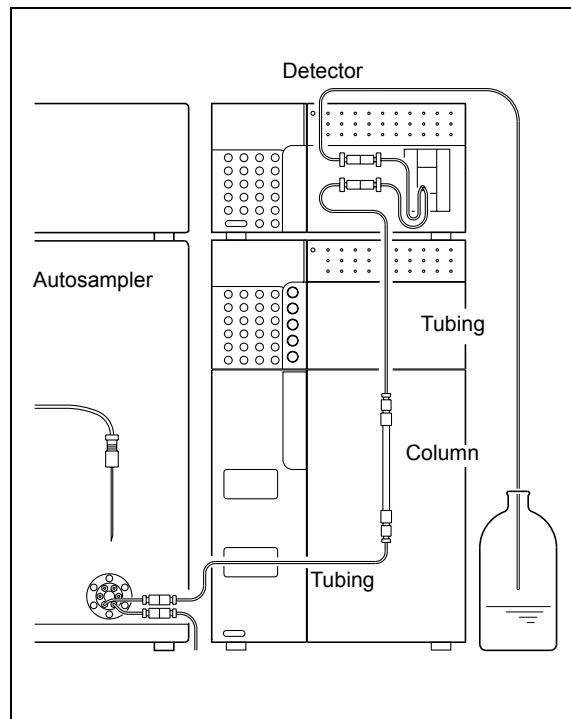

Fig. 7.6
- 4** When cleaning is finished, pour mobile phase (A: water, B: methanol) into the reservoir, and reconnect the column with the LC system ("Fig. 7.6").